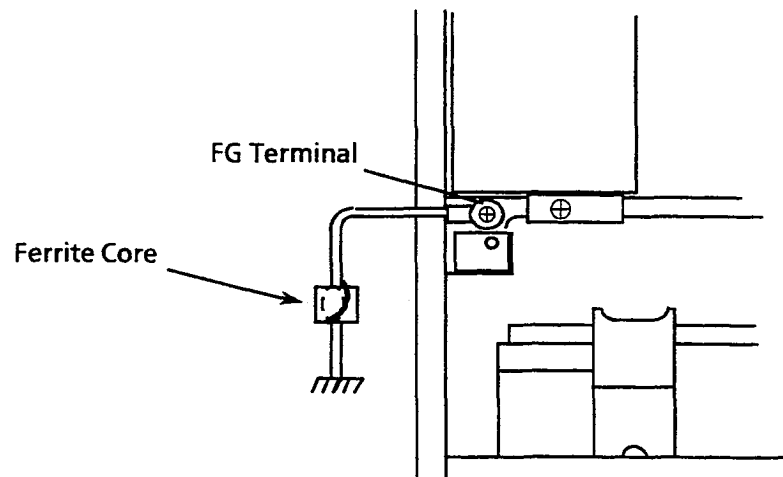

Figure 3-38 KSU Grounding
4. A grounding terminal is provided on the ESF-SB-10 KSU. Connect the grounding conductor to the hexagonal screw with the green colored head terminal. Refer to Figure 3-38 - KSU Grounding.